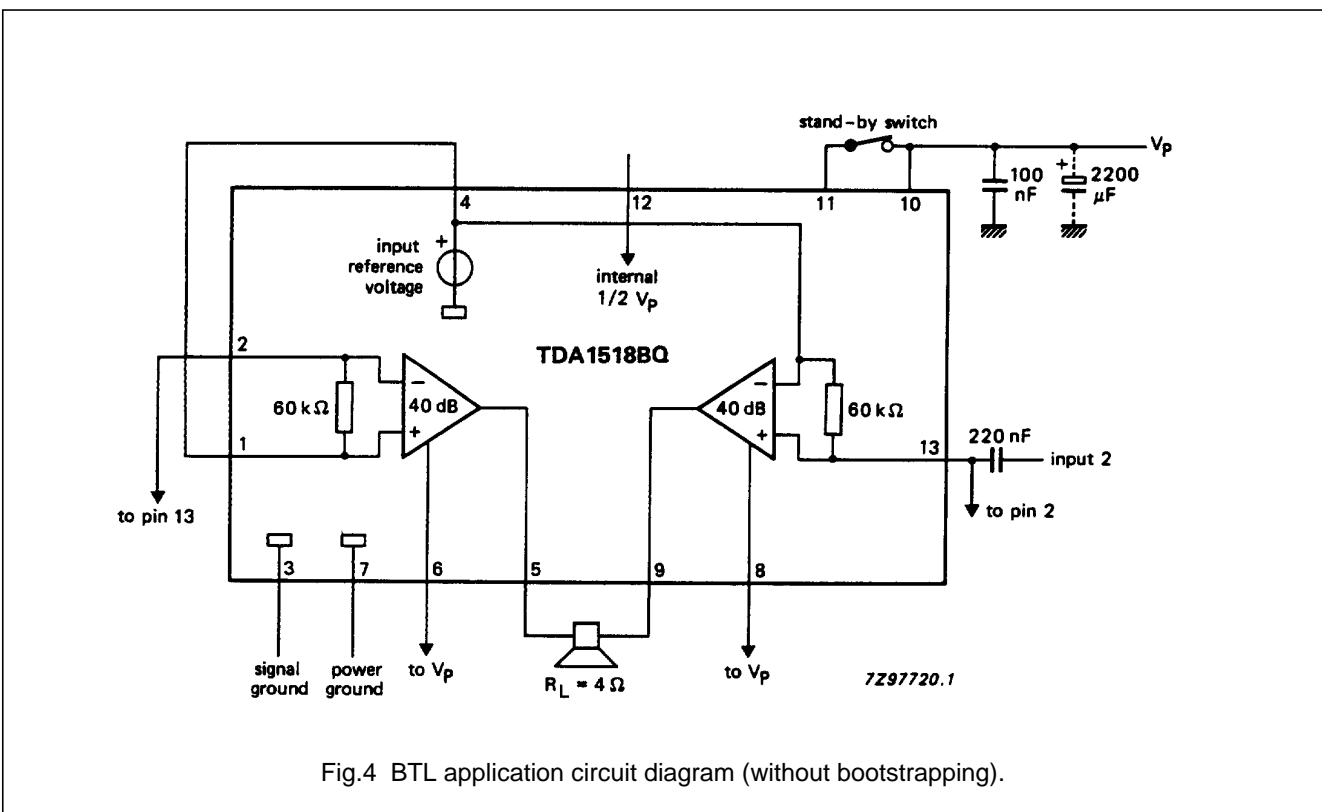

Fig.4 BTL application circuit diagram (without bootstrapping).
- All characteristics, for BTL application are measured using the circuit shown in Fig.4.